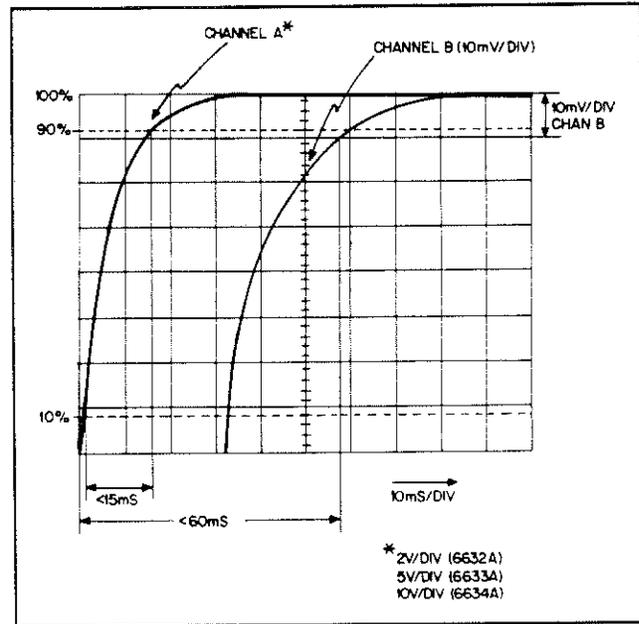

Figure 3-6. CV Up Programming Speed (Normal Mode) Test Waveforms
- i. On Channel A, observe the output voltage transition from the scope's 10% horizontal line to 90% of full scale voltage. It should take place in less than the time specified in Table 3-2, CV PROGRAMMING SPEED. Look for a smooth waveform with no "kinks" or aberrations. Refer to the Channel A waveform in Figure 3-6.